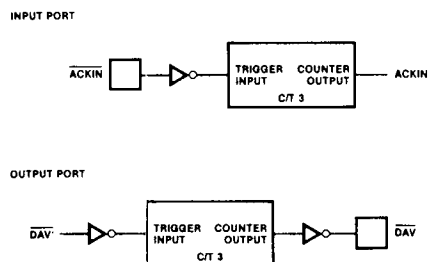

Figure 9. Pulsed Handshake
**Pulsed Handshake.** The Pulsed Handshake (Figure 9) is designed to interface to mechanical-type devices that require data to be held for long periods of time and need relatively wide pulses to gate the data into or out of the device. The logic is the same as the Interlocked Handshake mode, except that an internal counter/timer is linked to the handshake logic. If the port is specified in the input mode, the timer is inserted in the  $\overline{ACKIN}$  path. The external  $\overline{ACKIN}$  input triggers the timer and its output is used as the Interlocked Handshake's normal acknowledge input. If the port is an output port, the timer is placed in the Data Available ( $\overline{DAV}$ ) output path. The timer is triggered when the normal Interlocked Handshake  $\overline{DAV}$  output goes Low and the timer output is used as the actual  $\overline{DAV}$  output. The counter/timer maintains all of its normal capabilities. This handshake is not available to bidirectional ports.